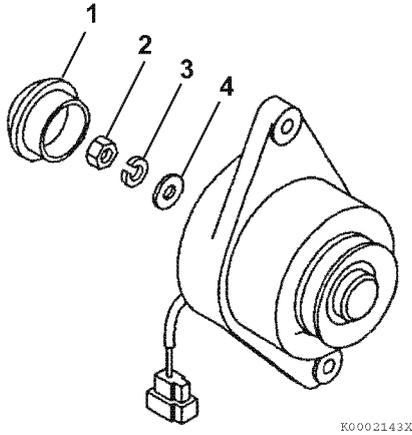

Figure 12-26
1. Remove the rear cover (1, **Figure 12-26**).
2. Remove the nut (1, **Figure 12-26**), lock washer (3, **Figure 12-26**), and flat washer (4, **Figure 12-26**).